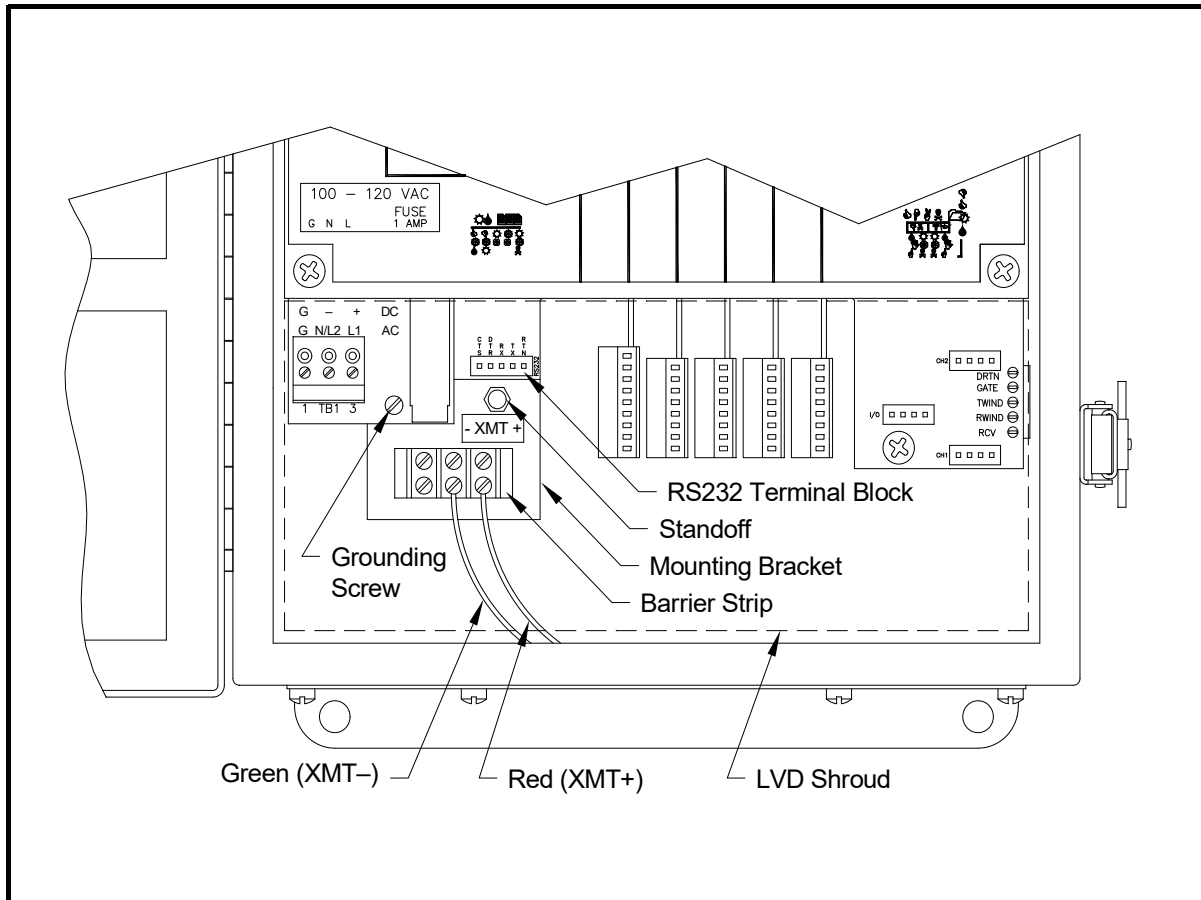

Figure 6-1: Interface Converter Mounting
A special bracket containing the serial interface converter and a three-terminal barrier strip is mounted inside the Model GC868, just below the RS232 terminal block (see Figure 6-1 below). The standard **RS232** terminal block is wired to the input of the serial interface converter, and the RS485 output of the serial interface converter is wired to the barrier strip.
Standard factory wiring of the RS485 serial interface is configured for point-to-point wiring. That is, a single Model GC868 may be wired directly to a single personal computer. To connect the RS485 serial interface, refer to Figure 6-1 on page 6-4 and complete the following steps:
- Remove the serial interface converter *mounting bracket* by removing the standoff located just below the **RS232** terminal block and the grounding screw to its left (see Figure 6-1 on page 6-4).